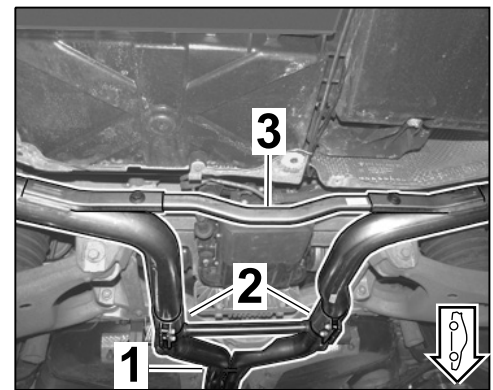

Figure 10
3.2.3 Fit left/right rear muffler with a new clamping sleeve –Ø 65 mm, 88 mm long– (2 x) on the front muffler (⇒ *Figure 10*).
3.2.5 Install transverse strut with a new hexagon-head bolt (M8 x 25, 2 x) and square nut (M8, 2 x) between the left and right rear muffler (⇒ *Figure 10*).